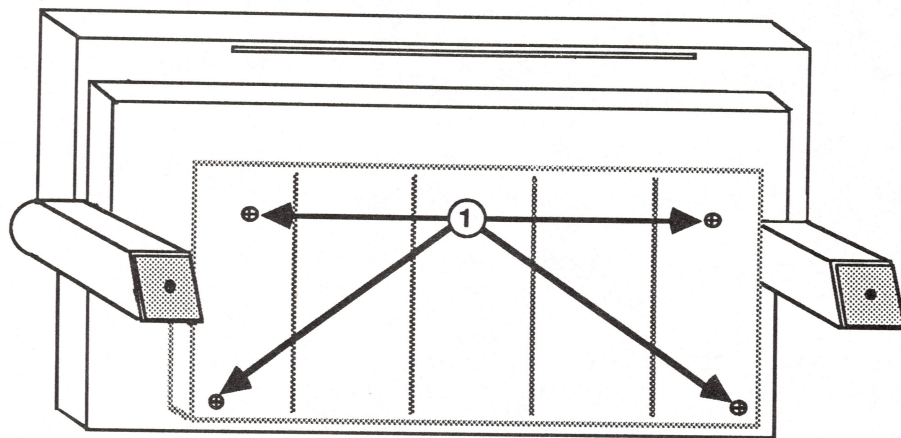

FIGURE 20
7. Replace the four screws that hold the bottom cover in place (see Figure 20, #1).